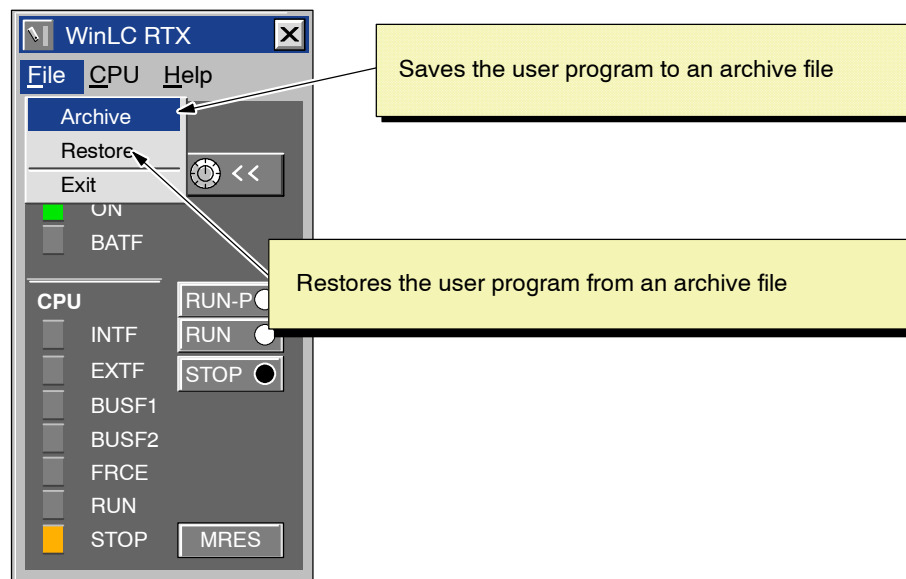

Figure 4-24 WinLC RTX Archive and Restore Commands
As shown in Figure 4-24, you create an archive file by selecting the **File > Archive** menu command from the control panel. The archive file contains the user program and the hardware configuration (SDBs). A dialog box allows you to save the archive file under a specific name. This allows you to store different archive files.
3. Select the **File > Restore** menu command from the control panel (as shown in Figure 4-24).